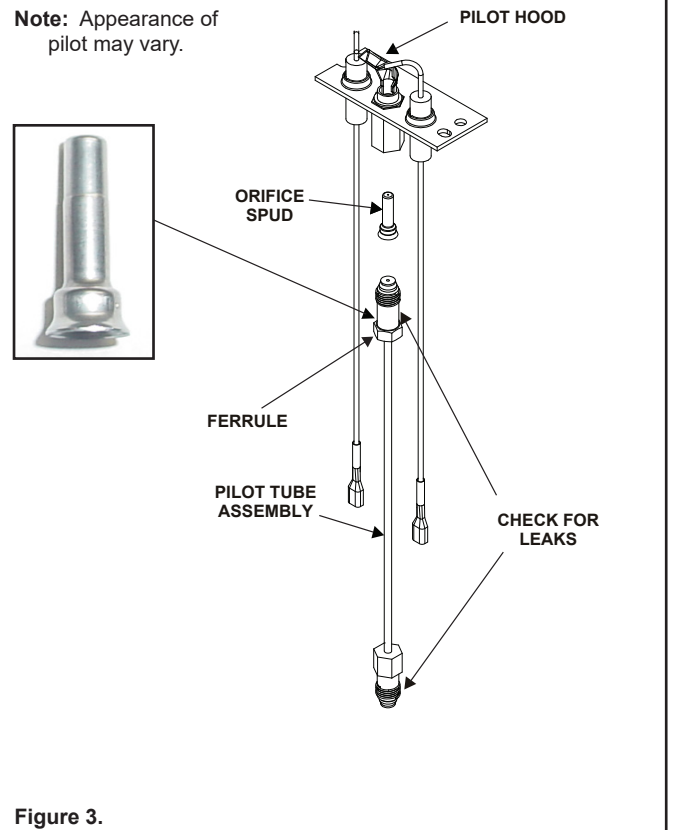

Figure 3.
15. Use a commercially available, noncorrosive leak check solution to test for leaks around the pilot. Be sure to rinse off all leak check solution following testing. See Figure 3 for leak check points. Extinguish the pilot.
11. Remove the gas supply tube fitting coming into the bottom of the pilot assembly. See Figure 3. Gently tap the pilot base if the pilot orifice doesn't come out. Replace the pilot orifice with the one included in the conversion kit. Reattach the pilot supply tube to the pilot assembly.